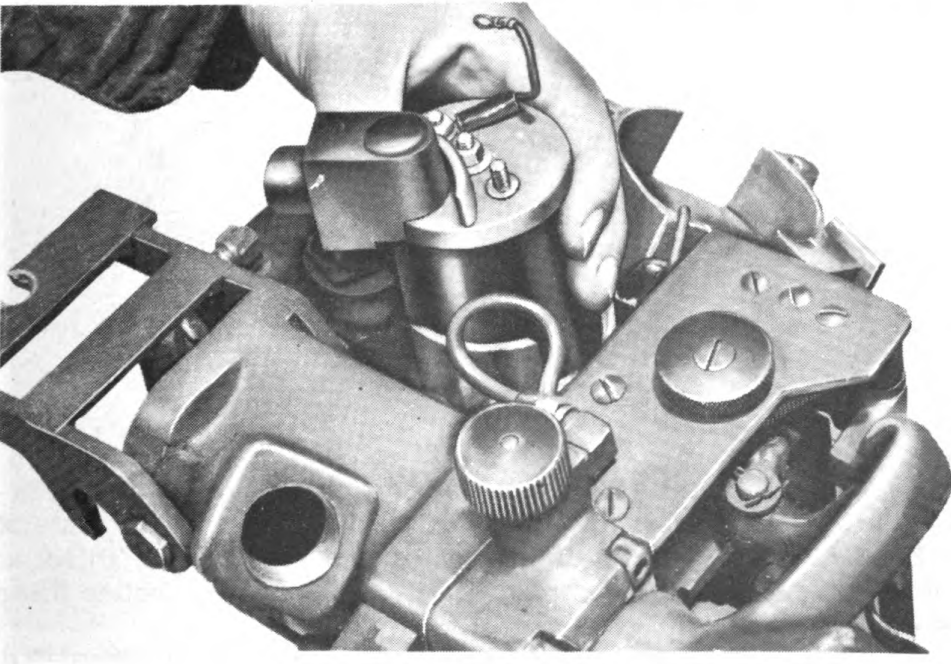

Fig. 83. Lifting out coil.
(5) Lift coil assembly from coil tube (fig. 83).